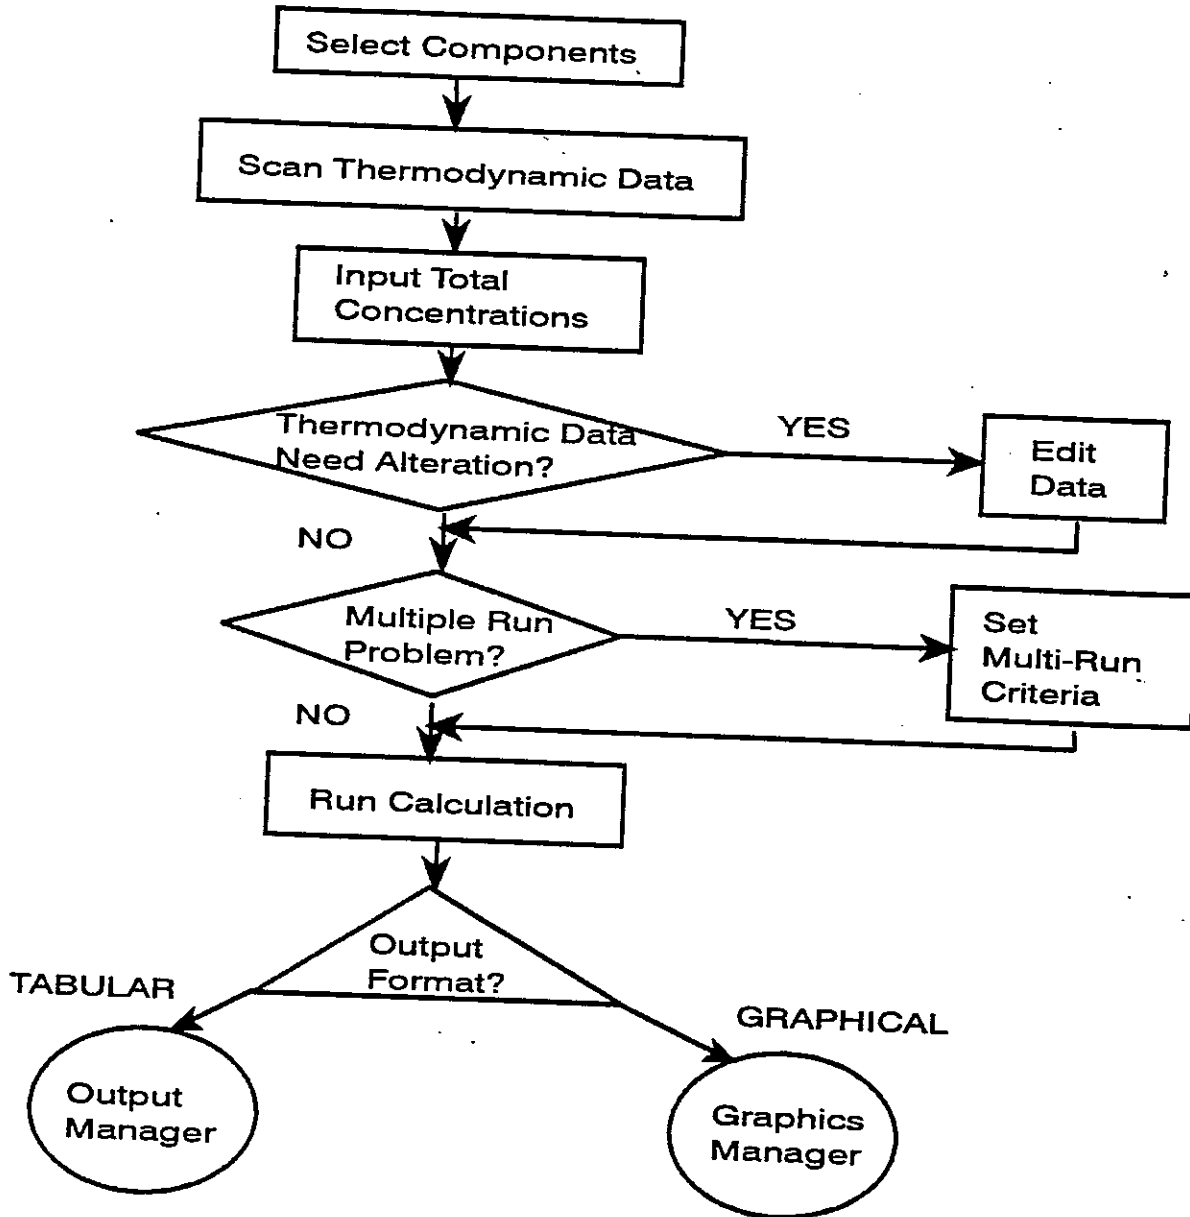

Figure 1.1
A typical MINEQL⁺ session is outlined as follows (Figure 1.1): (1) select chemical components from the component menu (question 1 from above), (2) scan the thermodynamic database (question 2), (3) input the total concentration of each component (question 3), (4) (optional) alter the set of thermodynamic constants and mass action expressions for the system, (5) (optional) set criteria for a multiple run, (6) start calculations, (7) (a) review output data and extract data subset for use in database or spreadsheet program or (b) view graphical representation of output data.